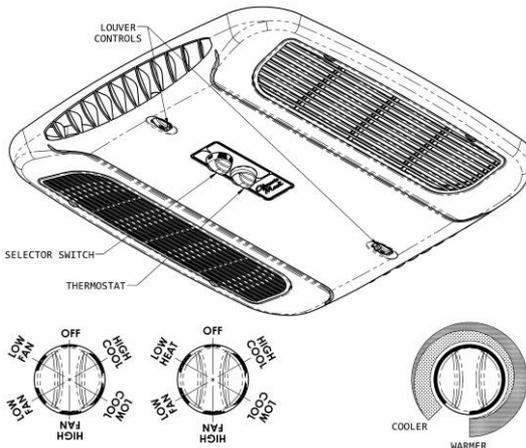

Figure 1
**A. The Selector Switch** – The selector switch determines which mode of operation the Heat Pump will be in. By rotating the selector switch, the operator can obtain any system function desired. System functions vary depending upon options of both the roof top unit and ceiling assembly. Figure 1 shows selector switch location and lists all available functions by model.
**B. The Thermostat (temperature control)** – In the cooling mode, the thermostat regulates the "ON" and "OFF" temperature setting at which the compressor will operate. See Figure 1.
- I. **For Cooling** (Refer to Figure 1, page 9).
### IV. For Heating ("Elect-A-Heat" Ceiling Assembly Model Only) Refer to Figure 1, page 9).
### V. For Air Circulation Only (Refer to Figure 1, page 9).